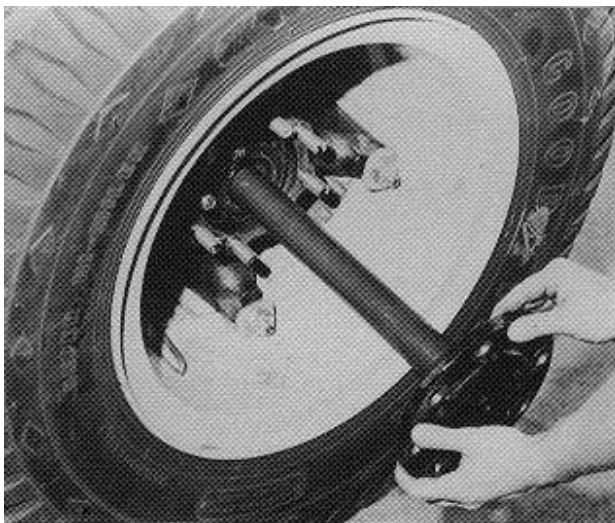

Figure 31 Rear Axle Shaft Installation
6. Install axle shaft (Figure 31). Refer to GROUP 14 - REAR AXLES in the CTS-5000 Master Service Manual for axle shaft specifications.